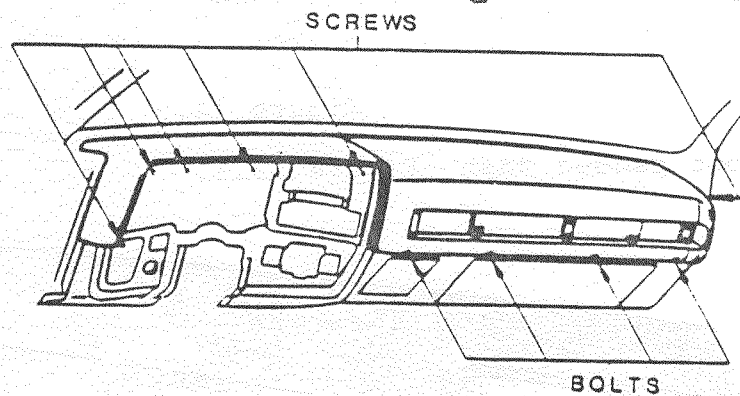

Figure 11.
71. Remove padded dash retaining screws (Figure 11.).